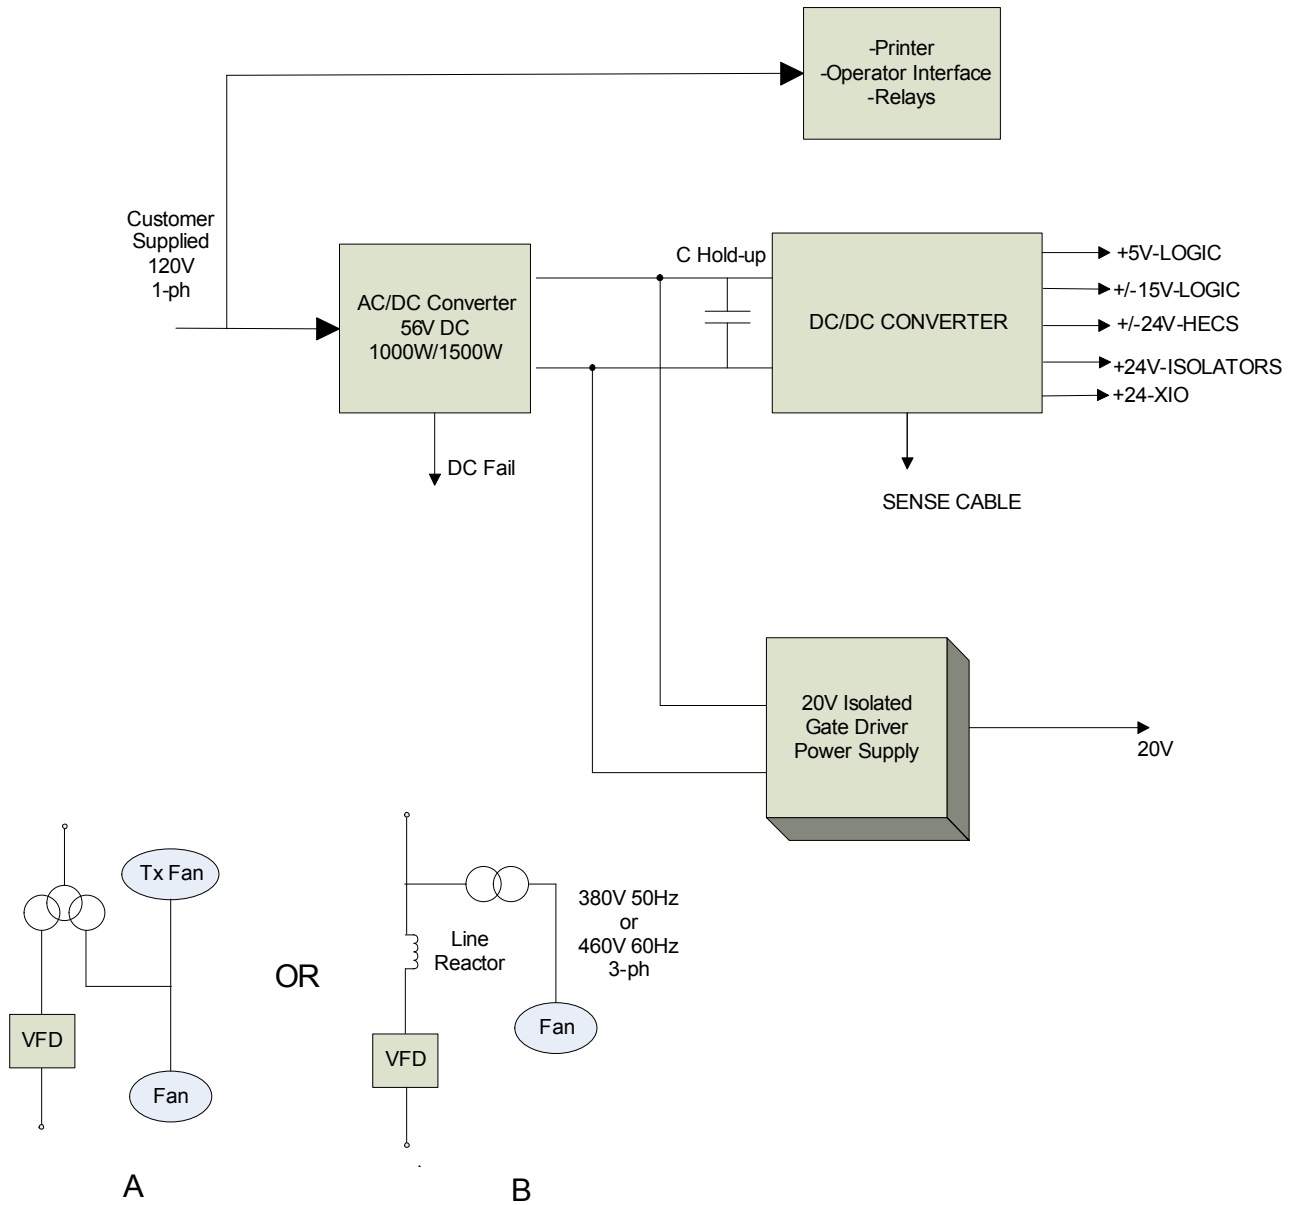

Figure 4.28 – AFE Rectifier with Separate Isolation Transformer (Configuration #2)
2. AFE Rectifier with Separate Isolation Transformer – Config. #2 (refer to Figure 4.28)
Figure 4.28 illustrates the control power distribution for AFE drives with remote transformer/starter (A) or integrated line reactor with remote starter (B).